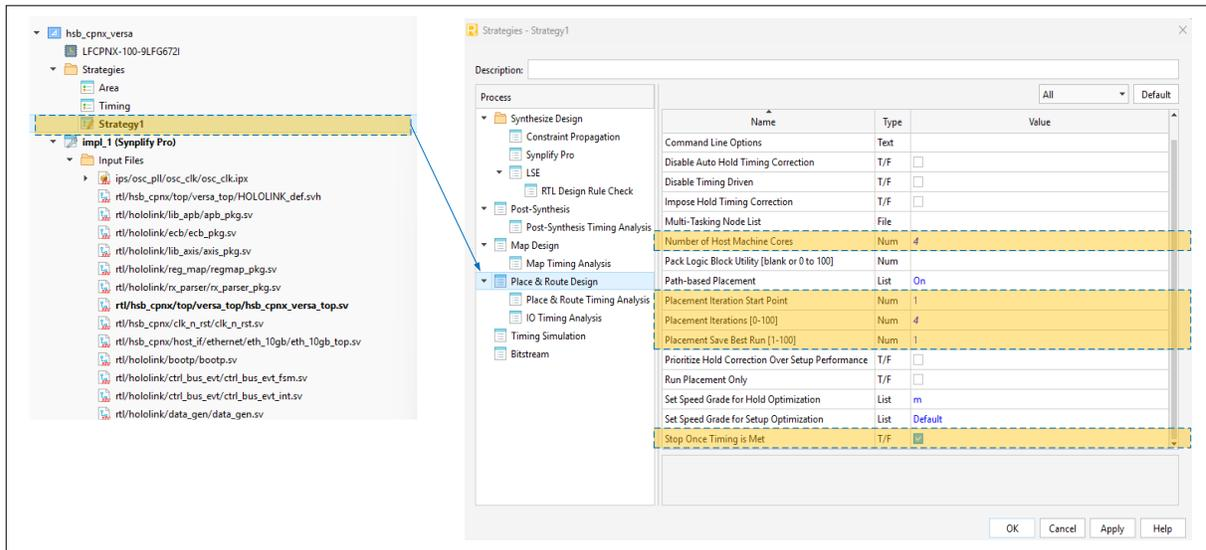

**Figure 5.5. Open Project File for CertusPro-NX Versa Board**
- Click **File > Open Project**. From the project database, open the Lattice Radiant software project file. To open the CertusPro-NX Versa board project file use *hsb\_cpnx\_versa.rdf*, or to open the CertusPro-NX Sensor-to-Ethernet Bridge board project file use *hsb\_cpnx\_2chip.rdf*, as shown in Figure 5.5.